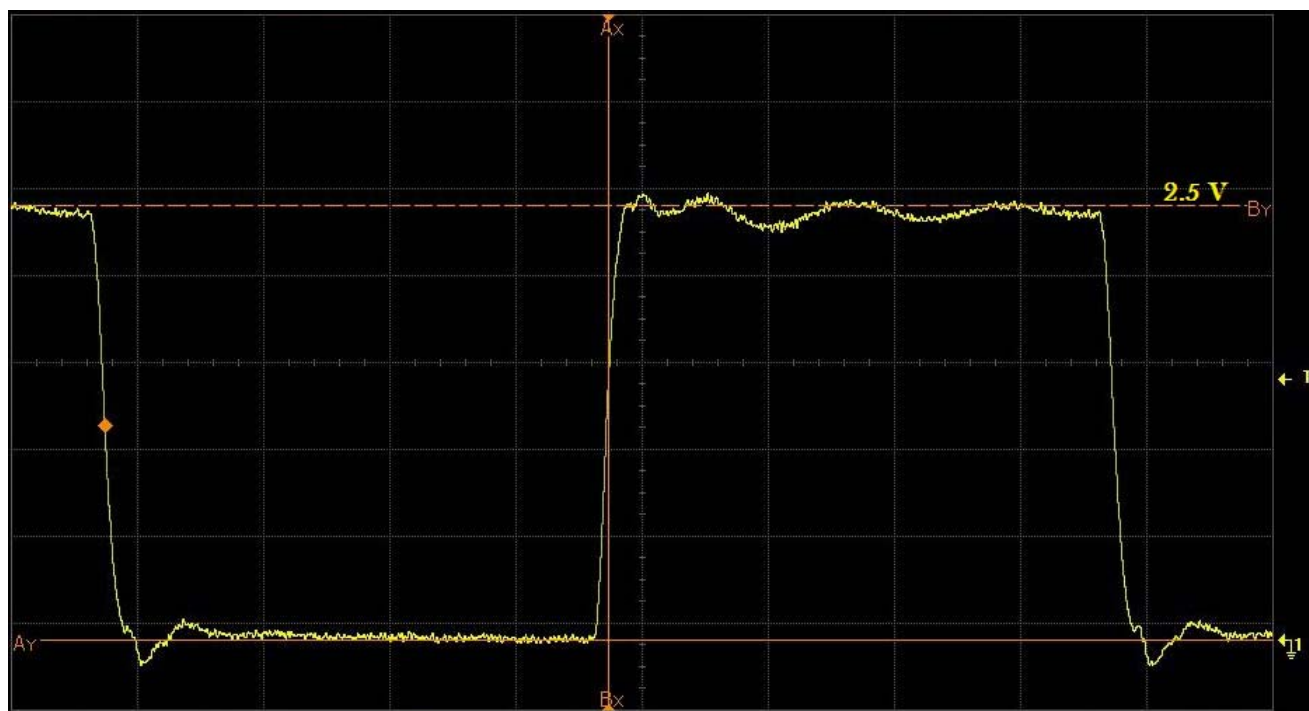

Figure 3. Rev B device (55  $\Omega$  Driver) into 50  $\Omega$  Trace
- Figure 3—Rev B device (2.5 V, 55  $\Omega$  driver) driving a 50  $\Omega$  trace